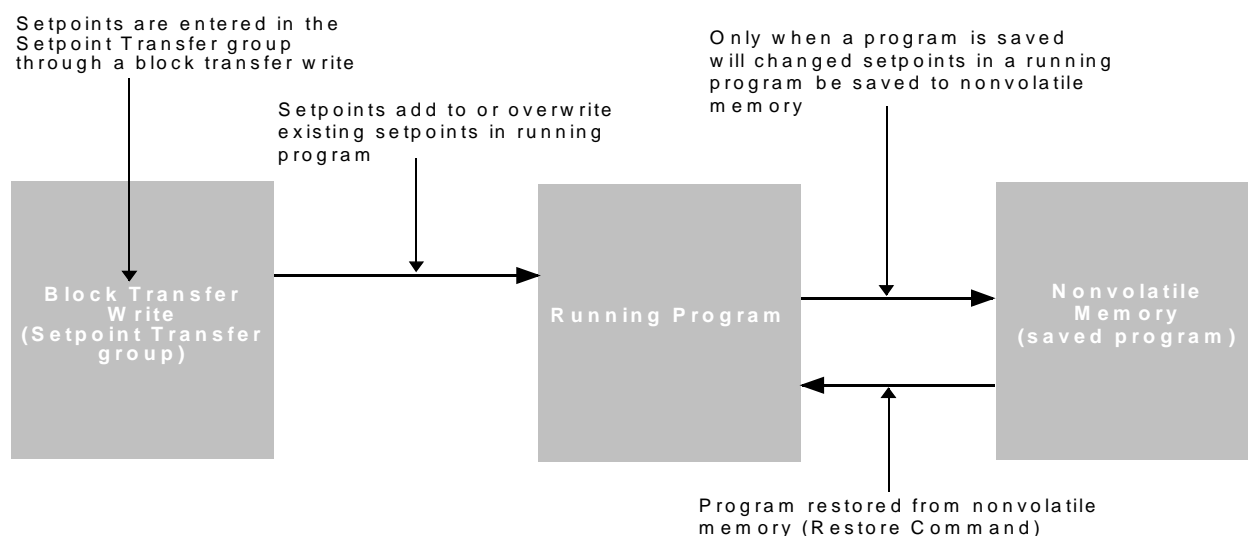

Figure 4-1 Relationship Between Running Program and Saved Program
Before you begin to program the PLS, there are some things you should consider. The first is that the PLS always maintains two copies of your program. The backup copy is held in nonvolatile memory, which means that it will not be lost even when the PLS is powered down. When you make changes to the PLS's setpoint and configuration data, you are changing the running program. See Figure 4-1. Once you are satisfied that your changes are correct, you should always save them by using the Save command (40). The Save command copies the running program into the backup copy. If you forget to save your changes, they will be lost if the PLS loses power. If you make changes to the running program and decide you do not want to keep those changes, you can undo them by using the Restore command (50). This command copies the backup copy back into the running program. All transfers are handled seamlessly from the running program to the nonvolatile memory and back again.